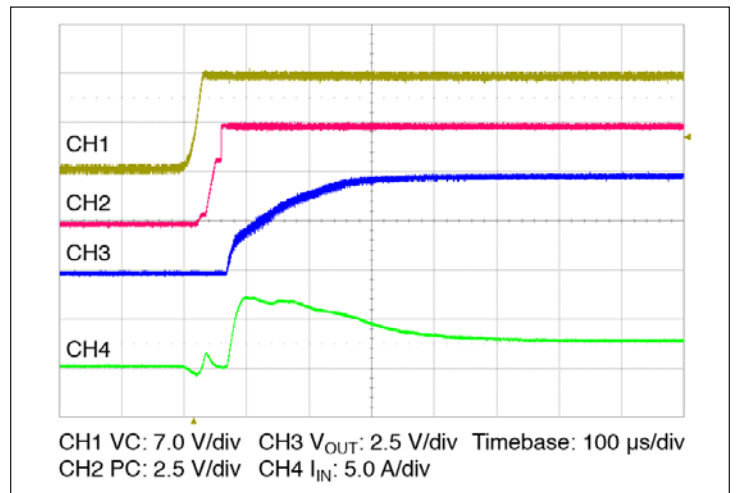

Figure 14 — Start up from application of  $V_C$ ;  $V_{IN}$  pre-applied  $C_{OUT} = 0 \mu\text{F}$
- **Stand Alone Operation (VC applied after VIN):** In this case the module output will begin to rise upon the application of the VC voltage (See Figure 14). The Adaptive Soft Start circuit (See Section 10) may vary the output rate of rise in order to limit the inrush current to its maximum level. When starting into high capacitance, or a short, the output current will be limited for a maximum of 900 µsec. After this period, the adaptive soft start circuit will time out and the module may shut down. No restart will be attempted until VC is re-applied, or PC is toggled. The maximum output capacitance is limited to 2000 µF in this mode of operation to ensure a successful start.